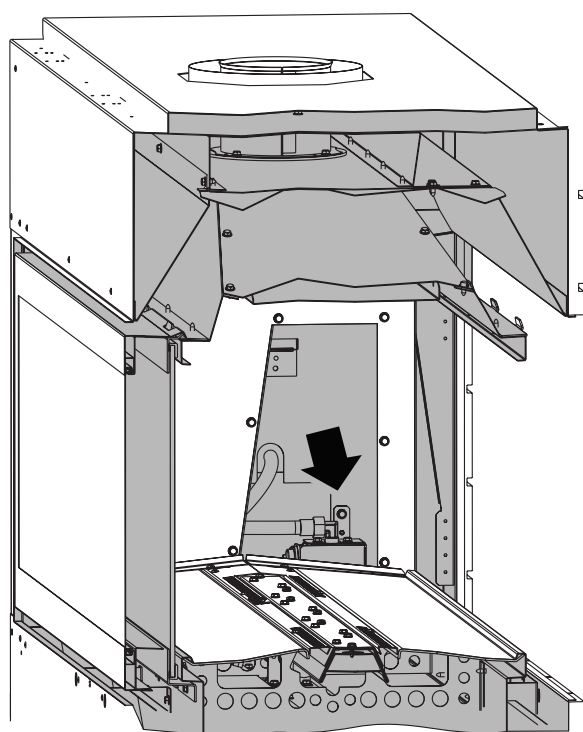

Figure 99
6. If necessary, remove the valve from the firebox wall by removing the screw shown in **Figure 99**.